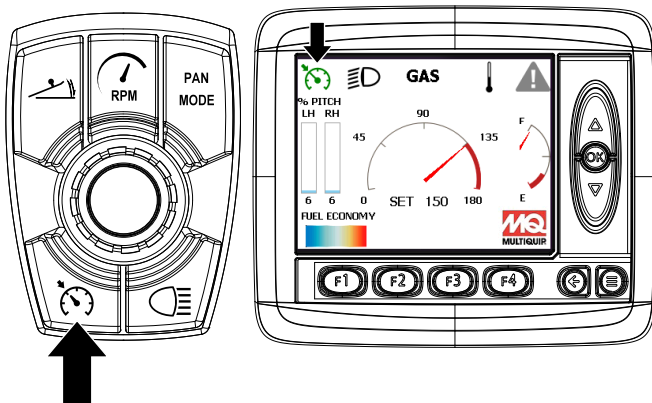

Figure 44. Cruise Control
3. Press the **cruise control button** (Figure 44). The cruise control icon on the digital display will turn green to indicate cruise control is engaged.